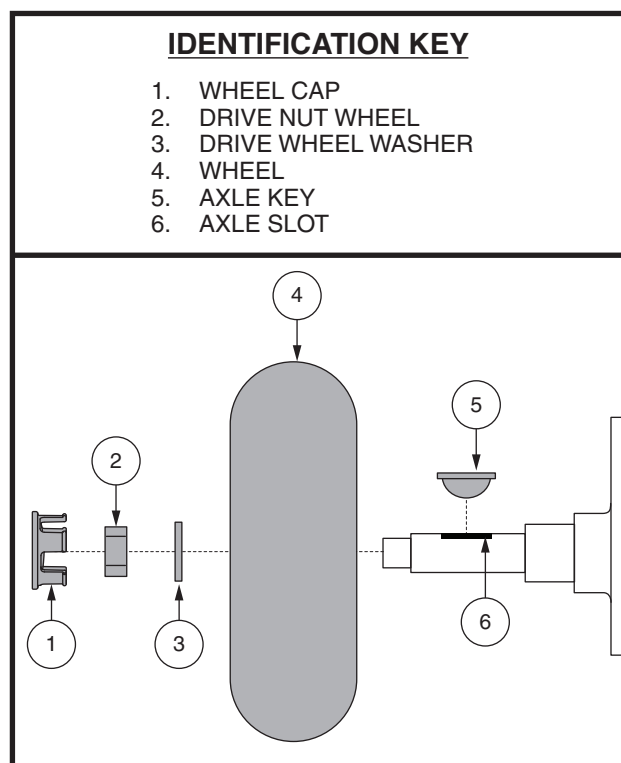

Figure 29. Wheel Removal
3. Remove the wheel cap, drive wheel nut and washer from the axle. **See figure 29.**
4. Remove the drive wheel nut and washer from the axle. **See figure 29.**